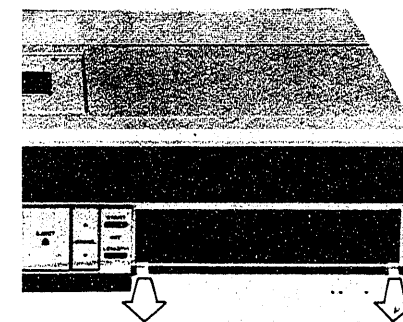

Fig. 1 Channel Preset Door
1. Channel Preset Door (Fig. 1)